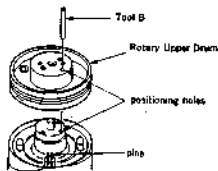

Fig. 3
- (1) Clean the flange surfaces of the Lower Drum and the contact point of the new Rotary Upper Drum with a cleaning piece. Check that no dust or flaw are left.
- (2) While adjusting the positional relationship of the Rotary Upper Drum and positioning hole with the tool B, insert the Rotary Upper Drum lightly. At this time, check that the terminals project out from the PC Board of the Rotary Upper Drum. When the terminals are caught, correct them with a pair of tweezers, etc.. Remove the tool B and lightly push the Rotary Upper Drum by hand. If the Rotary Upper Drum does not down to the bottom, thread the two fixing screws to the Rotary Upper Drum alternately, but do not tighten them. Insert the tool B in the positioning hole and check that the tool B can be inserted smoothly again. If the tool B can not be inserted, loosen the two screws (M 2 X 5) and adjust the position of the Rotary Upper Drum by precision screwdriver. (fig. 3 and 4)
- (3) Tighten the two screws (M2 X 5).
- (4) Assemble the parts with Removal Steps (1) to (4) in reverse order.